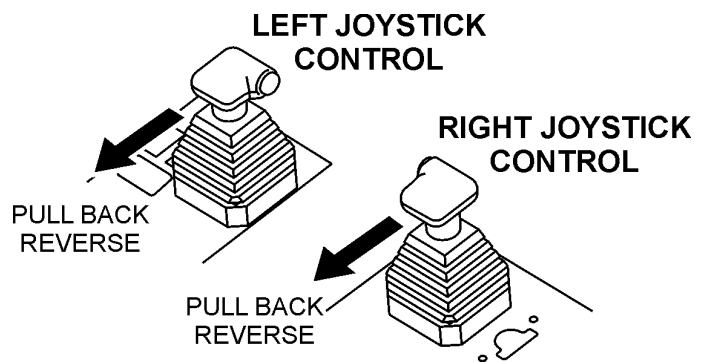

Figure 15. Joystick Control Reverse Direction
7. Pull both the left and right joysticks backward (Figure 15) and repeat steps 3 through 6 while substituting the word reverse for forward.